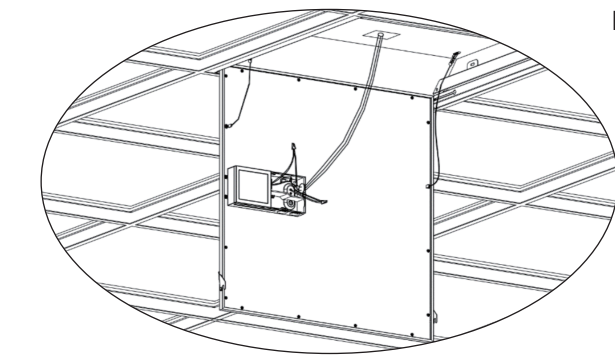

Figure7
STEP5: Hook the safety cables into the holes in the fixture(Figure 7). Connect the black wire from driver to the black wire from AC, and the white wire from driver to the white wire from AC. And the ground wire to the input ground wire. (Attention: the connector is not included in the package)